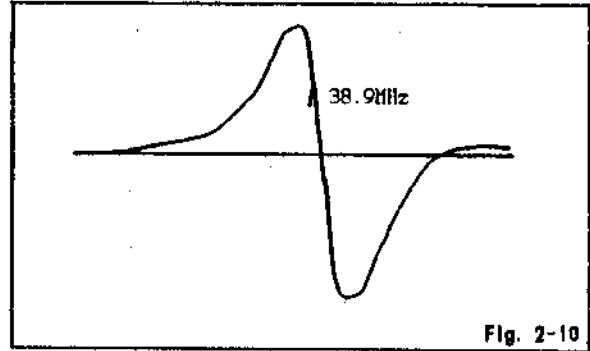

Fig. 2-10
1. Connect output of the sweep-marker generator to Tuner Pack IP and adjust L6005 so that output waveform for TP6002 is as shown in Fig. 2-10.